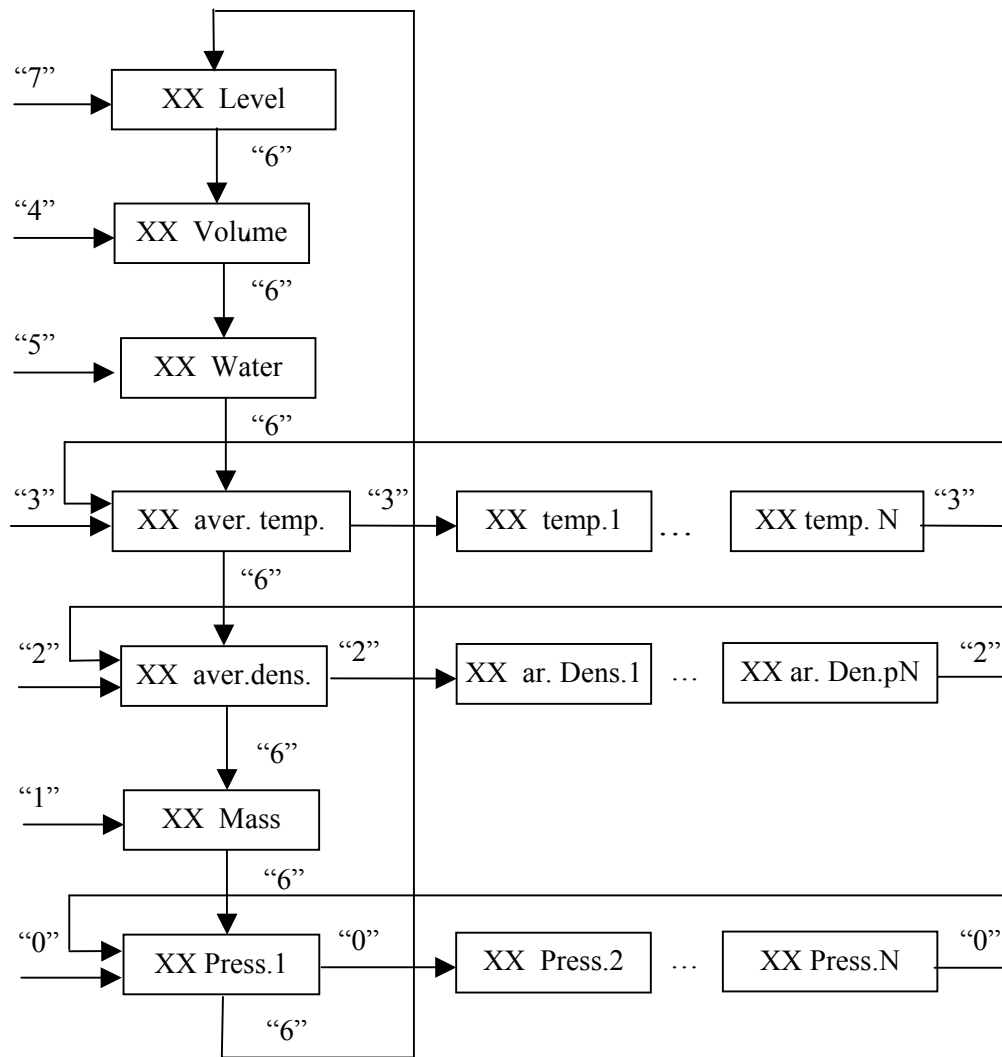

Figure 4.1a – Basic parameters review
By further pushing button “3” the depictions of temperature values “temperature 1”...“temperature N” are shown (please see figure 4.1a), corresponding to the temperature sensors (TS) 1 ... N. Number (N) TS and settings coordinates on the tank height are given in the system passport KIIIIOE.421451.001ПC.
Further pushing of button “2” start depictions of the density values “ar. Density 1” ...“ ar. Density N” (see figure 4.1a), corresponding to density meters 1...N. The number (N) of density meters and settings coordinates for the tank height are given in the system passport KIIIIOE.421451.001ПC.